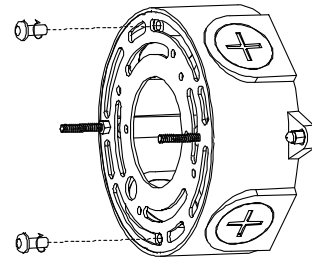

Fig 6
2. Align the Mounting Plate to the hole of the junction box and tighten it with screws. (Fig 6)